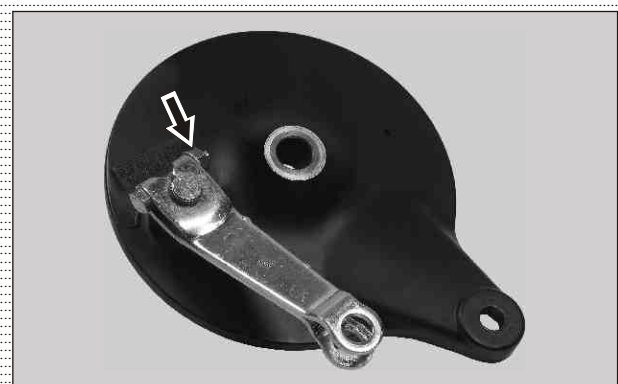

Fig. 6.122
- Remove hexagonal nut M6. (Fig. 6.122)
- Remove punched washer and hexagonal bolt (M6x33). (Fig. 6.122)